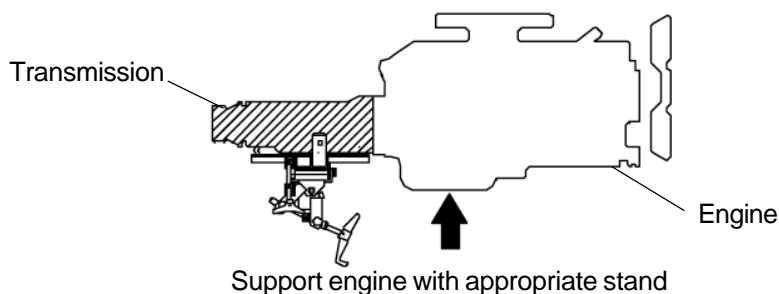

Figure 5
9. Support engine with appropriate stand before removing transmission from engine. (see Figure 5)